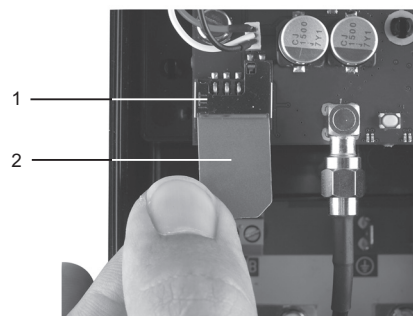

Fig. 4 Inserting the SIM card
1. Insert the SIM card into the CIM 250. See fig. 4.
The connectors on the SIM card must point downwards towards the CIM 250. See fig. 4.